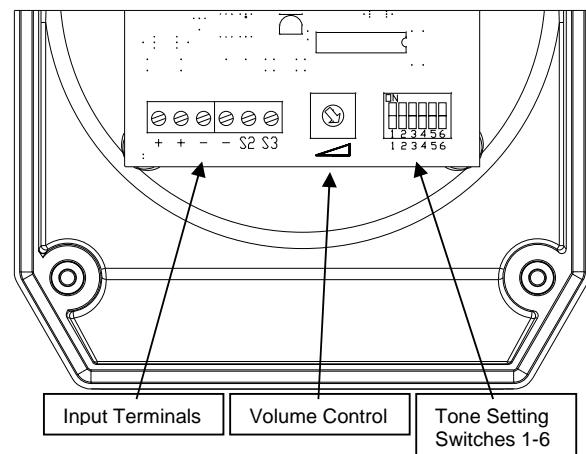

Fig 2 Location of field terminals and controls.
- Remove the PVC grommet and fit a 20mm cable gland or conduit entry into the hole in the enclosure and connect the field wiring to the appropriate sounder terminals as shown in section 6 and fig 2 of this manual. The power supply terminals + and - are duplicated so that sounders may be connected in parallel, or an end of line monitoring resistor may be fitted.
- Select the required output tone by positioning the 6-way DIP switch as shown in Table 1.0 and Fig 2.
The output level of the IS-D105 sounder can be set by adjusting the volume control potentiometer (see Fig 2).
**Tone Selection** – To select the required first stage tone set the tone switches 1 to 6 (see Fig 2) to the tone setting shown in the table below. The table also shows which 2nd and 3rd stage tones are available for use with the selected first stage tone if more than one tone output stage is required.